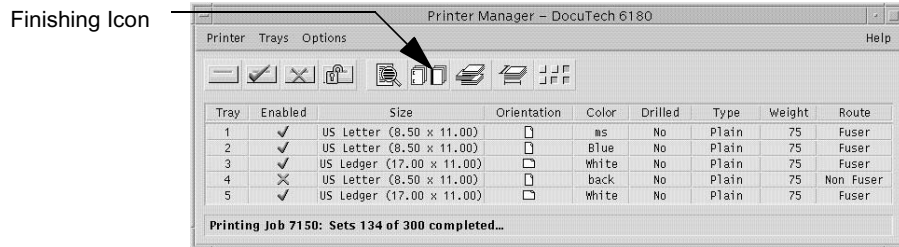

Figure 1-5: The Finishing Icon in Printer Manager
- Click the **Finishing Icon** in the Printer Manager Window, as shown in Figure 1-5.